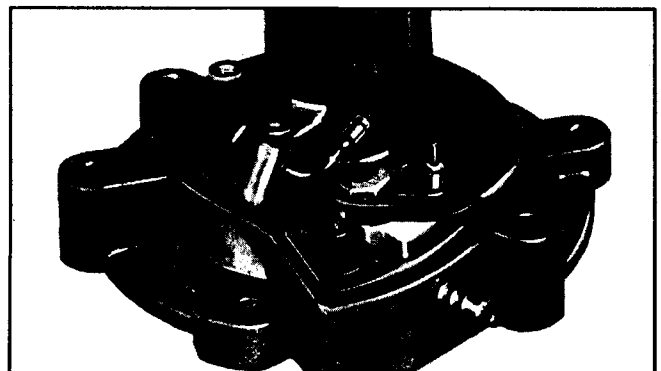

Fig. 4-16 Distributor Valve Assembly
1. Remove screw, washer, distributor arm assembly, washer and distributor valve bushing (Fig. 4-16).